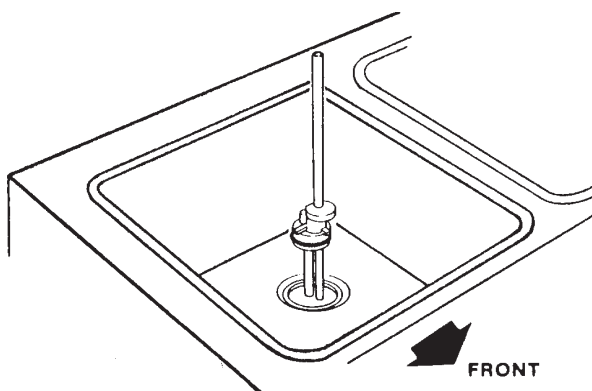

Figure 29. Installing Mix Inlet Regulators
- K. Install the mix inlet regulators into the hopper with the air inlet (long) tube toward the front of the freezer (Fig. 29).